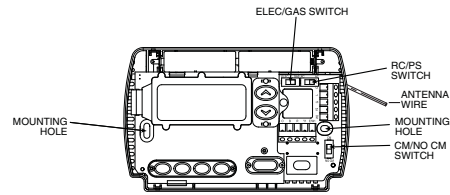
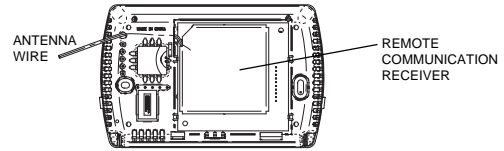

Figure 1 – Thermostat base
Figure 2 – Back of thermostat base
3. Using the thermostat and sensor bases as templates, place them on the selected wall locations and mark the location of all mounting holes (Figure 1 and 3), and the hole for the thermostat antenna wire illustrated in Figure 2.
5. Make sure the remote communication receiver is plugged in properly to the thermostat and that the antenna wire is routed through the thermostat subbase as shown in Figure 2.
\* The RC/PS switch shown in Figure 1 configures the thermostat for Hardwire or Power Stealing.